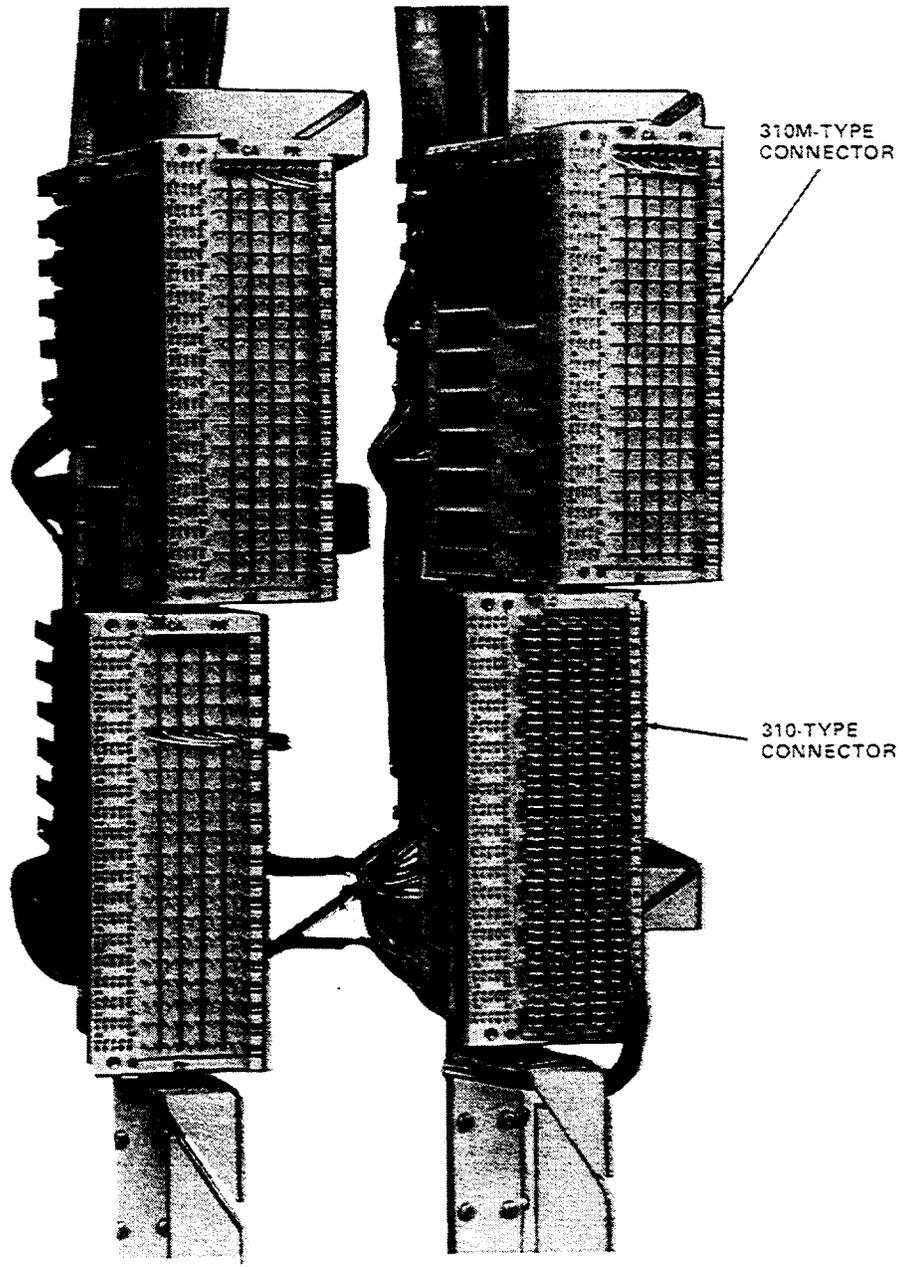
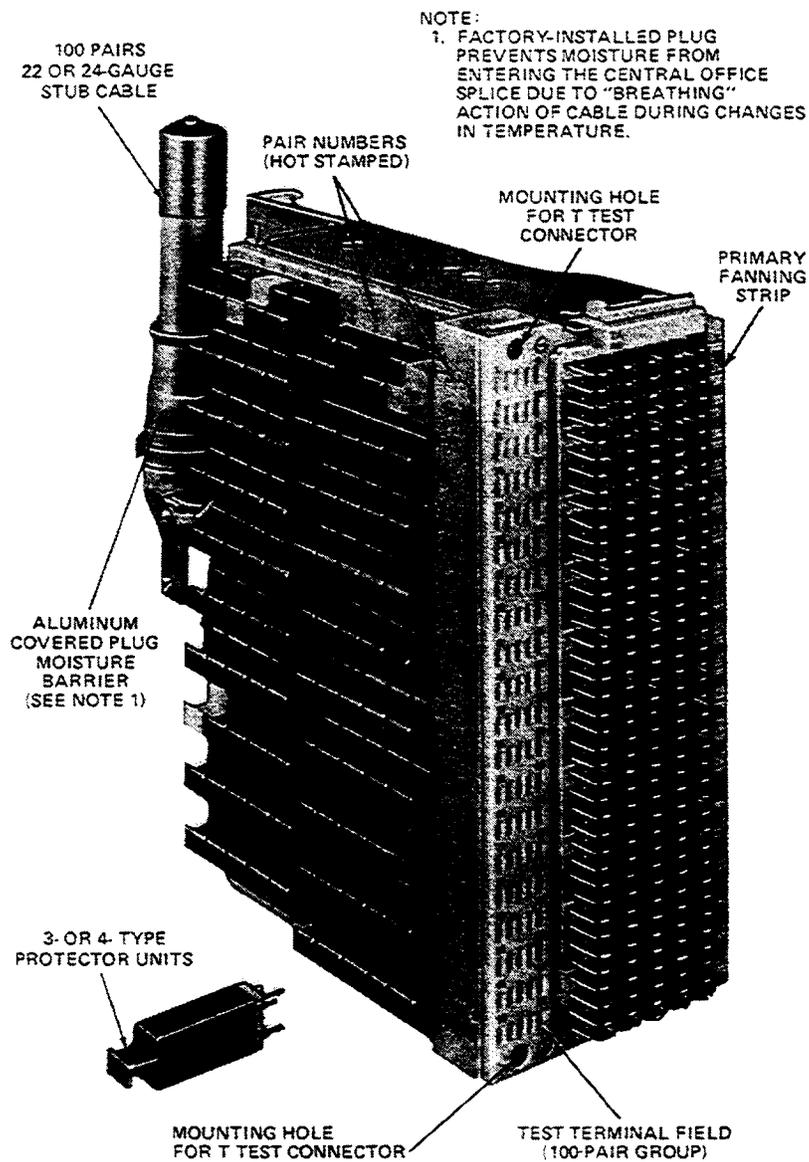

Figure 1. Angle Mounted 310M-Type (Top) and 310-Type Connector (Bottom)
Figure 2. 310-Type Connector — Left Side View — Quick-Clip Cross-Connect Field
2.01 Two series of 310-type connectors (310/310L and 310M/310ML) are offered for convenience and ease of installation. All 310-type connectors have the same features except for the angled mounting arrangement of the 310M/310ML. The 310M/310ML-type connector mounting bracket is angled 12.5-degrees (Figure 1) to provide improved visual and physical access to the plug-in protector field while also maintaining front access to both the test and cross-connect fields (see Figures 2, 3, and 4). All the exposed wires in the UL Listed connectors are enclosed in a metal casing.